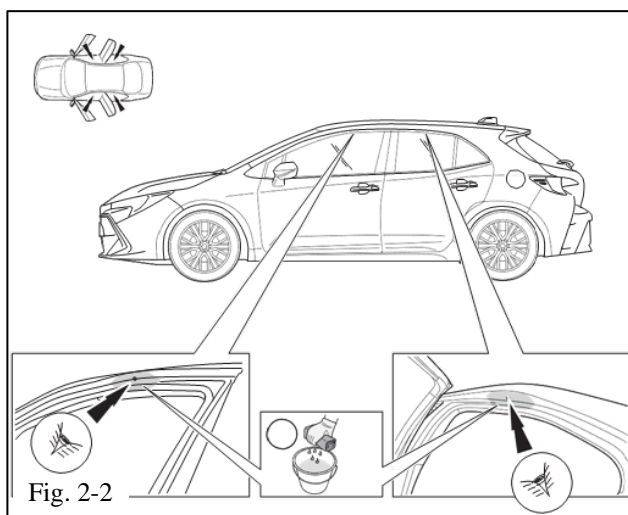

Fig. 2-2
- (c) Open all four doors and clean the indicated mounting area with VDC-approved cleaner or soap and water solution (Fig. 2-2).